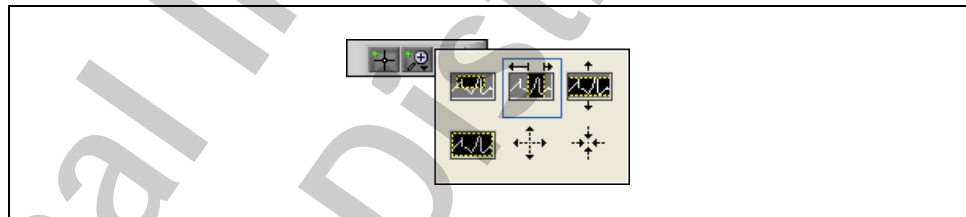

Figure 3-4. Graph Palette - Zoom Button
- ☐ Stop the VI. Click the Zoom button on the time-domain data graph and zoom in on the x-axis, as shown in Figure 3-4.